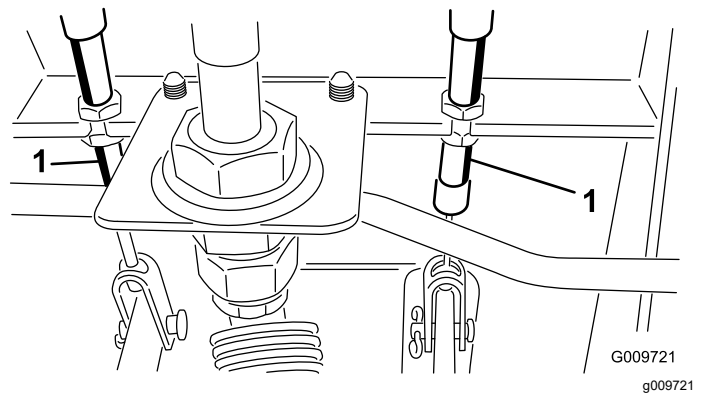

Figure 73
- A. Loosen the front nut on the threaded end of the brake cable (Figure 73).